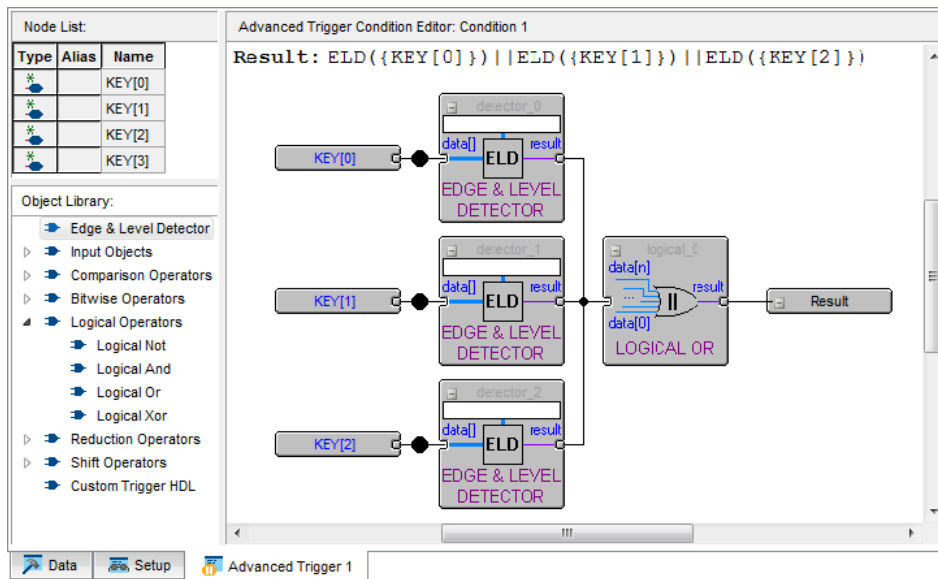

Figure 20. Arrange the elements to create a circuit that looks like this.
6. In the object library click Edge and Level Detector and drag this into the editing window. Do this three times and then arrange the circuit as in Figure 20. The three inputs should each be connected to the input of an edge and level detector and the output of each of these detectors should be connected to the OR gate. The output of the OR gate should be connected to the output pin already in the editing window.